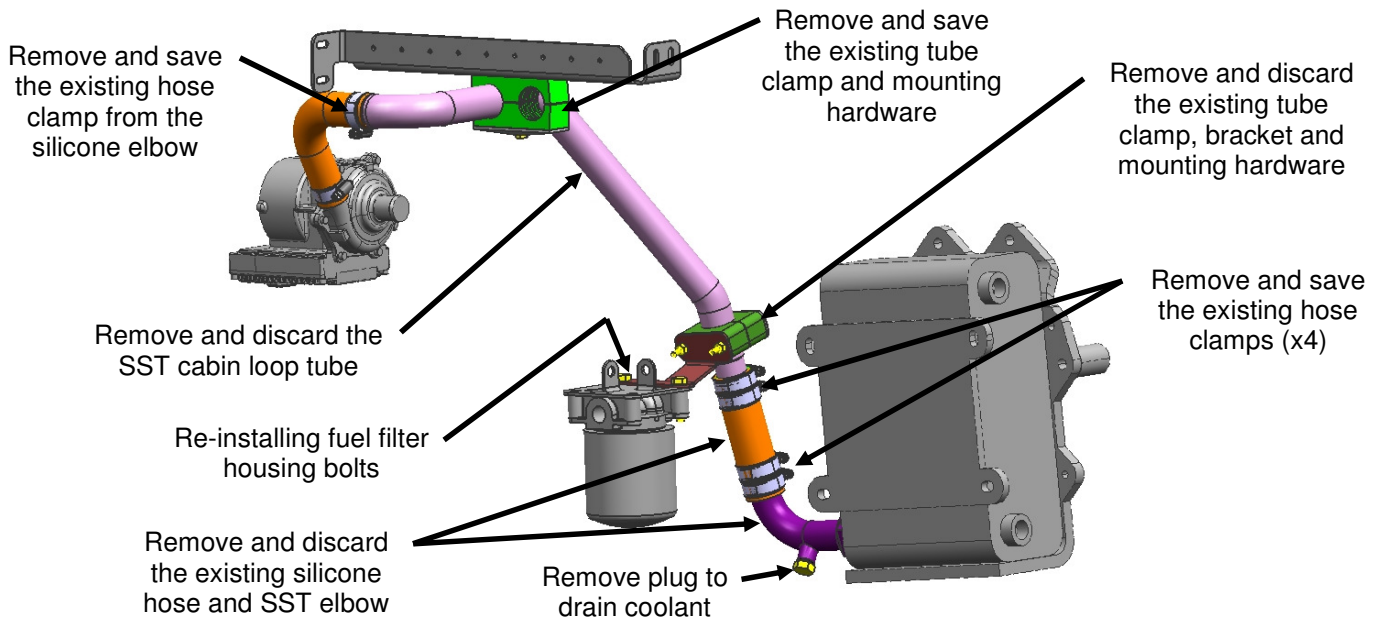

Figure 2: Cabin Heat Coolant Intake Tube Removal
4. Place a suitable container under the heat exchanger cabin loop drain plug. Remove and discard the existing drain plug and drain cabin heat coolant circuit. See Figure 2.
7. Remove and save the existing tube clamp and mounting hardware supporting the heat exchanger cabin loop intake SST tube to the degas frame as shown in Figure 2.
8. Remove and discard the existing tube clamp, bracket and mounting hardware supporting the heat exchanger cabin loop intake SST tube to the auxiliary heater fuel filter bracket as shown in Figure 2. Clean and apply loctite p/n 081034 to the bolt threads prior to re-installing fuel filter housing bolts, see Figure 2.
9. Remove and save the existing hose clamp from the silicone elbow on the booster pump line to the SST cabin loop intake tube, see Figure 2.
10. Remove and save the existing hose clamps (x4) from the silicone hose connecting the heat exchanger 90° SST elbow to the SST tube to the booster pump, see Figure 2.
11. Remove and discard the existing silicone hose, 90° SST elbow at the heat exchanger and SST cabin loop coolant intake tube, see Figure 2.